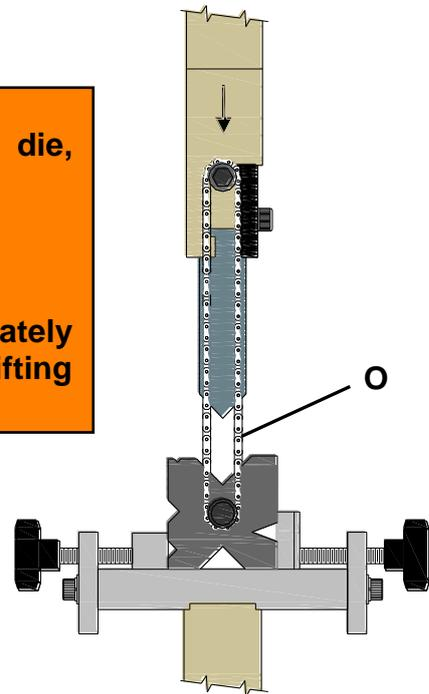

figure 21
2. Press the “**Down**” foot switch until the ram is close enough to the bottom die allowing you to attach the chains (**O**) as shown in (fig. 21).